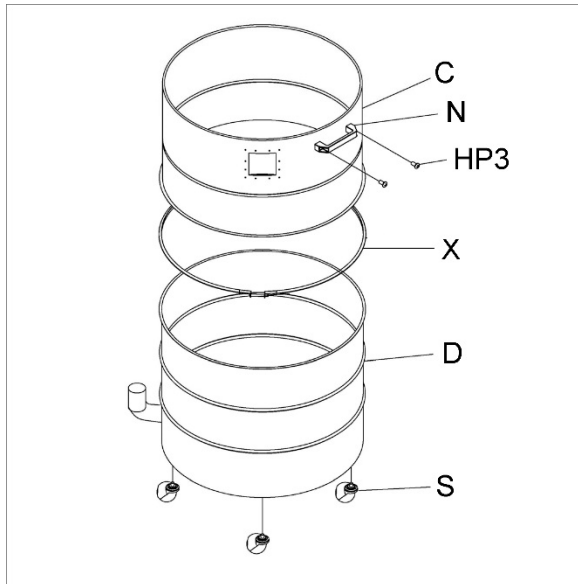

Figure 7
6. Assemble upper drum (C, Figure 7) and lower drum (D) and secure with drum clamp (X) by tightening screw.
7. Install handle (N) with screws (HP3).
8. Install casters (S) into threaded holes beneath drum.